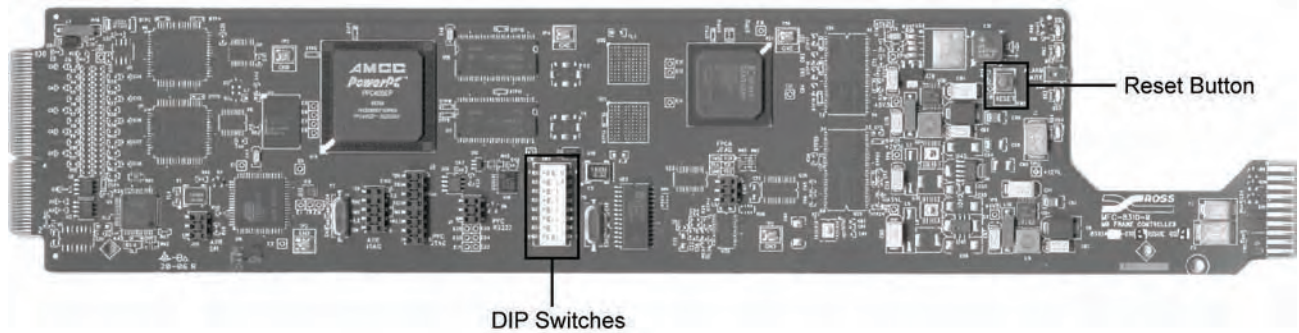
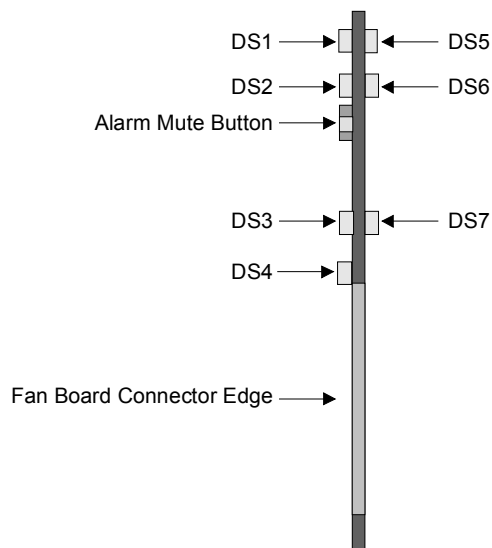

Figure 13. MFC-8310-N DIP Switches
Figure 14. MFC-8310-N Card Edge Controls
1. On the MFC-8310-N card, set DIP_8 to **ON**. Refer to **Figure 13** and **Figure 14** for DIP Switch locations.
This section provides information on the controls and LEDs for the MFC-8310-N controller card. These are similar to the controls and LEDs on the MFC-8310, with some additional LEDs and DIP switches. The location of the controls are show in **Figure 13**.
The LED indicators and controls for fan, alarm, and communication activity are shown in **Figure 14**.